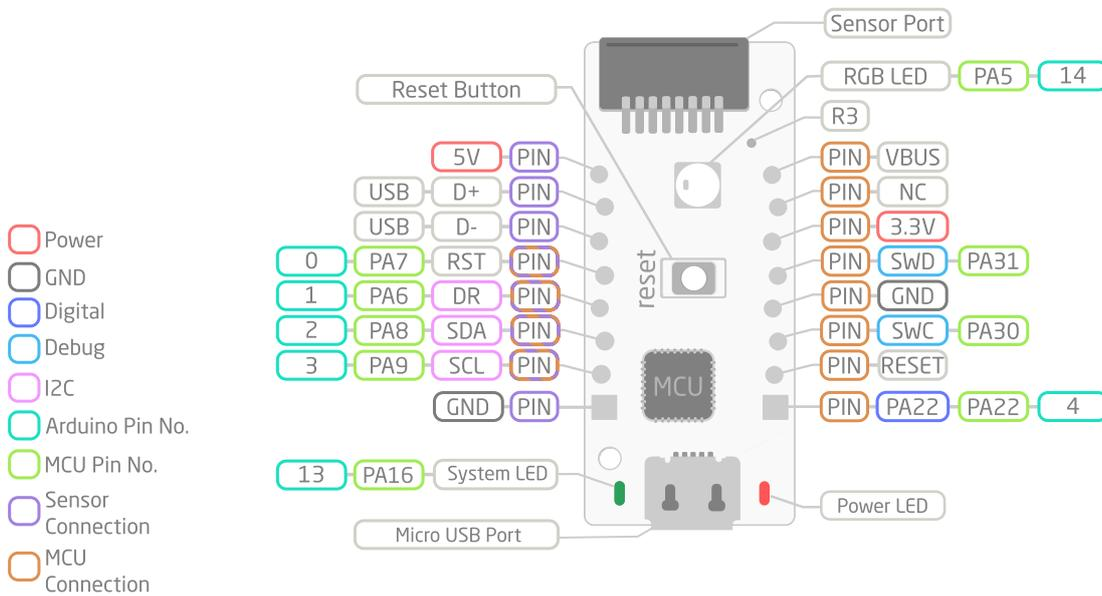

Figure 1 - Pinout Diagram of Neonode Prototyping Board
**The Prototyping Board is positioned according to Figure 1, with the sensor port at the top of the board, and the Micro USB port at the bottom.*